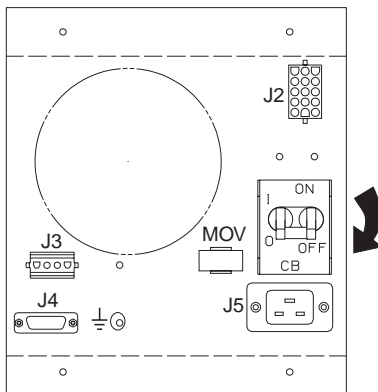
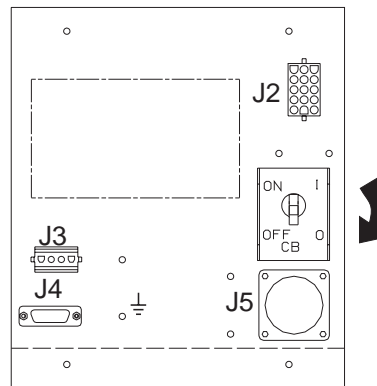

Figure 10-1. AC Power Supply
Figure 10-2. DC Power Supply
1. \_\_\_\_ **Switch** the main circuit breaker CB **OFF** at the ac or dc power box. (See Figure 10-1, or Figure 10-2 if the optional power feature is installed).